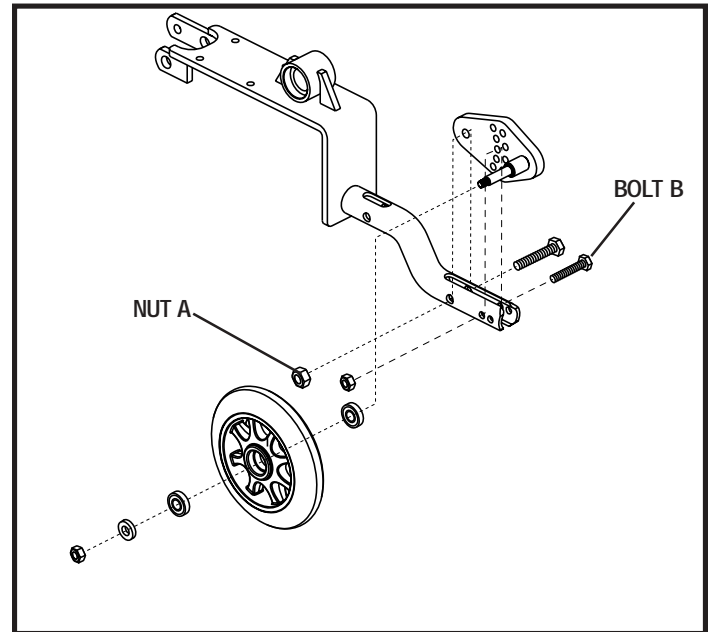

Figure 24. Anti-Tip Wheel Assembly
1. Loosen nut A. See figure 24.